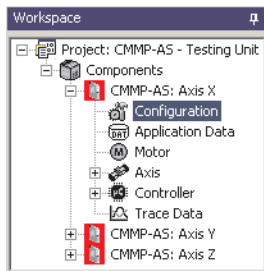

Fig. 4.12 FCT – workstation window
1. Open the “Drive Configuration” work space for the converted CMMP-AS-...-M3 in the FCT (→ Fig. 4.12).